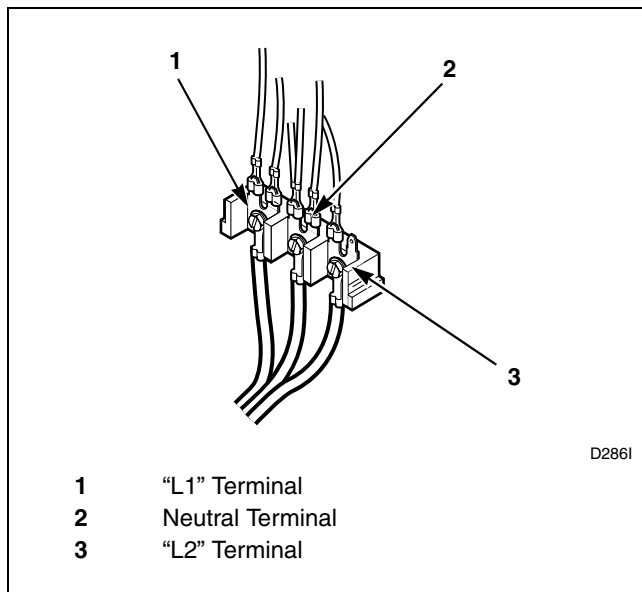

Figure 12
4. Use the three screws from the accessories bag to attach the power cord wires to the terminal block. Refer to *Figure 12*.